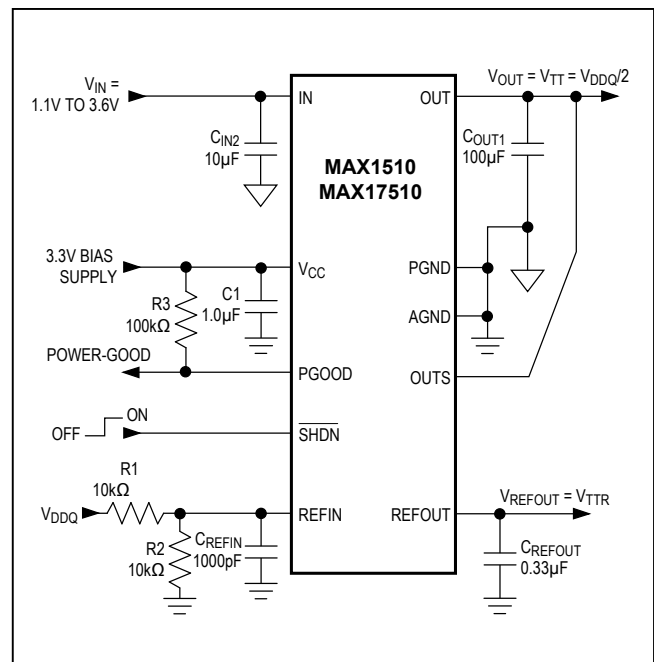

Figure 1. Standard Application Circuit
($V_{IN} = 1.8V$, $V_{CC} = 3.3V$, $V_{REFIN} = V_{OUTS} = 1.25V$, $\overline{SHDN} = V_{CC}$, circuit of Figure 1, $T_J = T_A = -40^\circ C$ to $+85^\circ C$ for MAX1510ETB, $T_J = T_A = -40^\circ C$ to $+125^\circ C$ for MAX17510ATB, unless otherwise noted. Typical values are at $T_A = +25^\circ C$.) (Note 1)
($V_{IN} = 1.8V$, $V_{CC} = 3.3V$, $V_{REFIN} = V_{OUTS} = 1.25V$, $\overline{SHDN} = V_{CC}$, circuit of Figure 1, $T_J = T_A = -40^{\circ}C$ to $+85^{\circ}C$ for MAX1510ETB, $T_J = T_A = -40^{\circ}C$ to $+125^{\circ}C$ for MAX17510ATB, unless otherwise noted. Typical values are at $T_A = +25^{\circ}C$.) (Note 1)
(Circuit of Figure 1. $T_A = +25^\circ\text{C}$, unless otherwise noted.)
The MAX1510/MAX17510 are low-voltage, low-dropout DDR termination linear regulators with an external bias supply input and a buffered reference output (see Figures 1 and 2). V_{CC} is powered by a 2.7V to 3.6V supply that is commonly available in laptop and desktop computers. The 3.3V bias supply drives the gate of the internal pass transistor, while a lower voltage input at the drain of the transistor (IN) is regulated to provide V_{OUT}. By using separate bias and power inputs, the MAX1510/MAX17510 can drive an n-channel high-side MOSFET and use a lower input voltage to provide better efficiency.
The MAX1510/MAX17510 regulate OUTS to the voltage set at REFIN, making the devices ideal for memory applications where the termination supply must track the supply voltage. Typically, REFIN is set by an external resistive voltage-divider connected to the memory supply (V_{DDQ}) as shown in Figure 1. The maximum output voltage of 1.5V is limited by the gate-drive voltage of the internal n-channel power transistor.